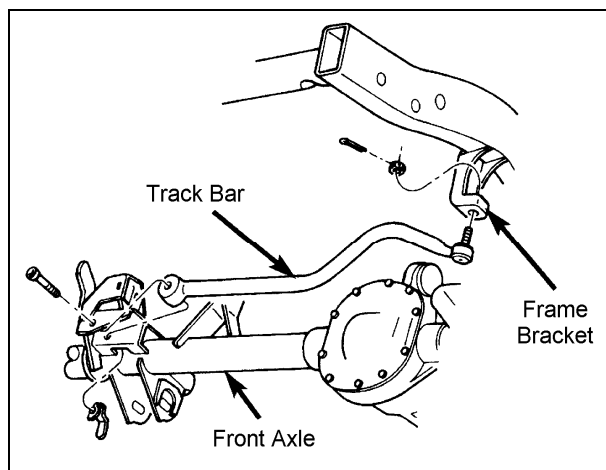

Figure 1
3) Remove the cotter pin and nut from the ball stud end of the track bar at the frame rail bracket. Separate the ball stud from the bracket with the recommended puller tool. See figure 1.